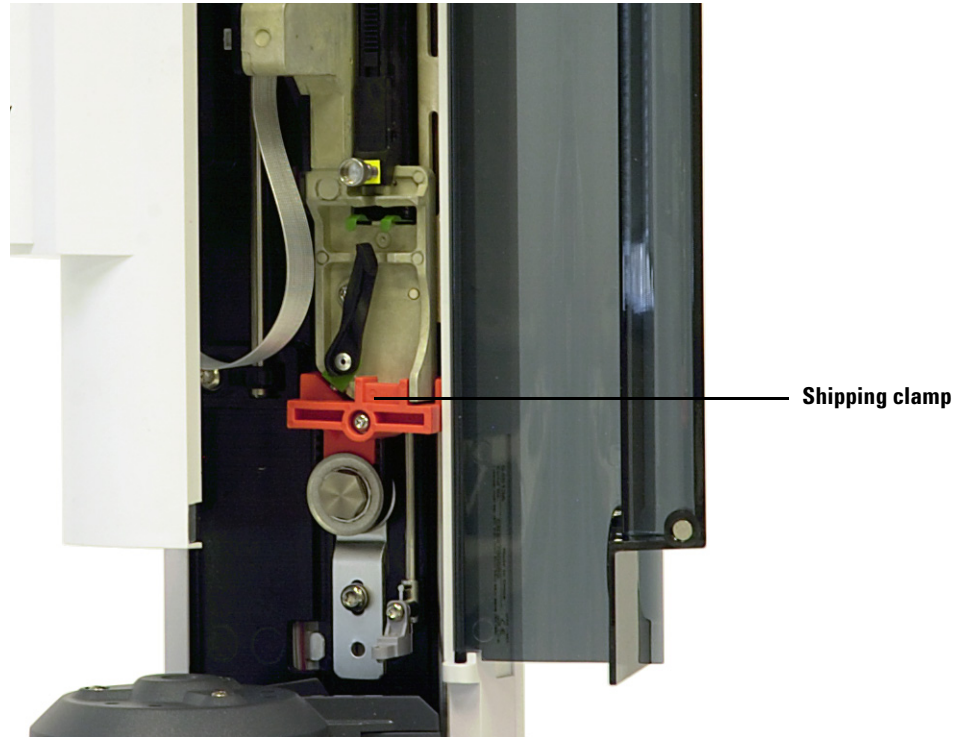
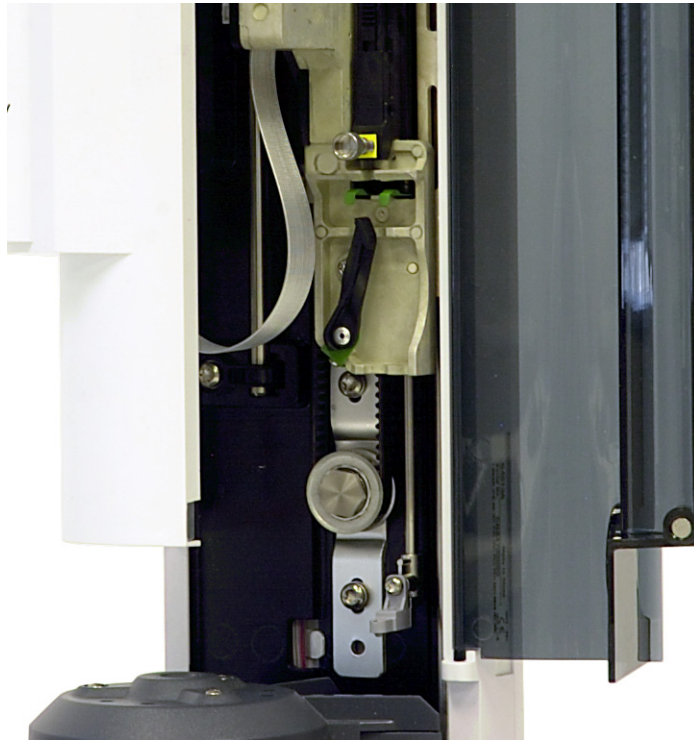

Figure 11 Shipping clamp installed.
Figure 12 Shipping clamp removed.
- Using a T-10 Torx driver, completely loosen the T-10 screw and remove the shipping clamp from the syringe carriage (Figure 11 and Figure 12).